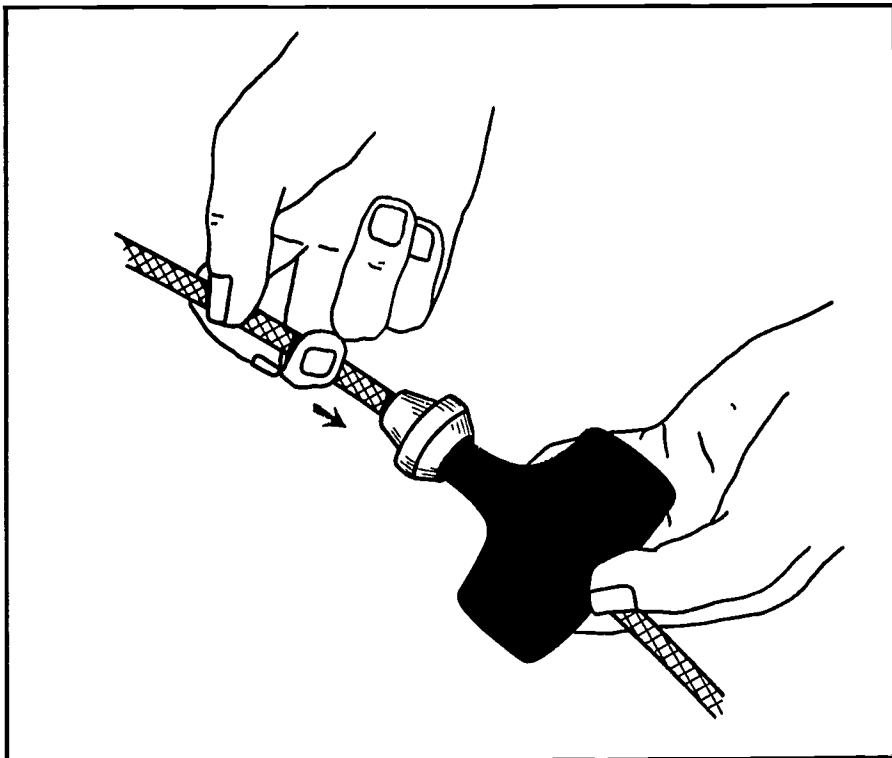

FIGURE 11. Insert the rope into the T-handle before knotting.
3. *Insert one end of rope into the T-handle (Figure 11).*